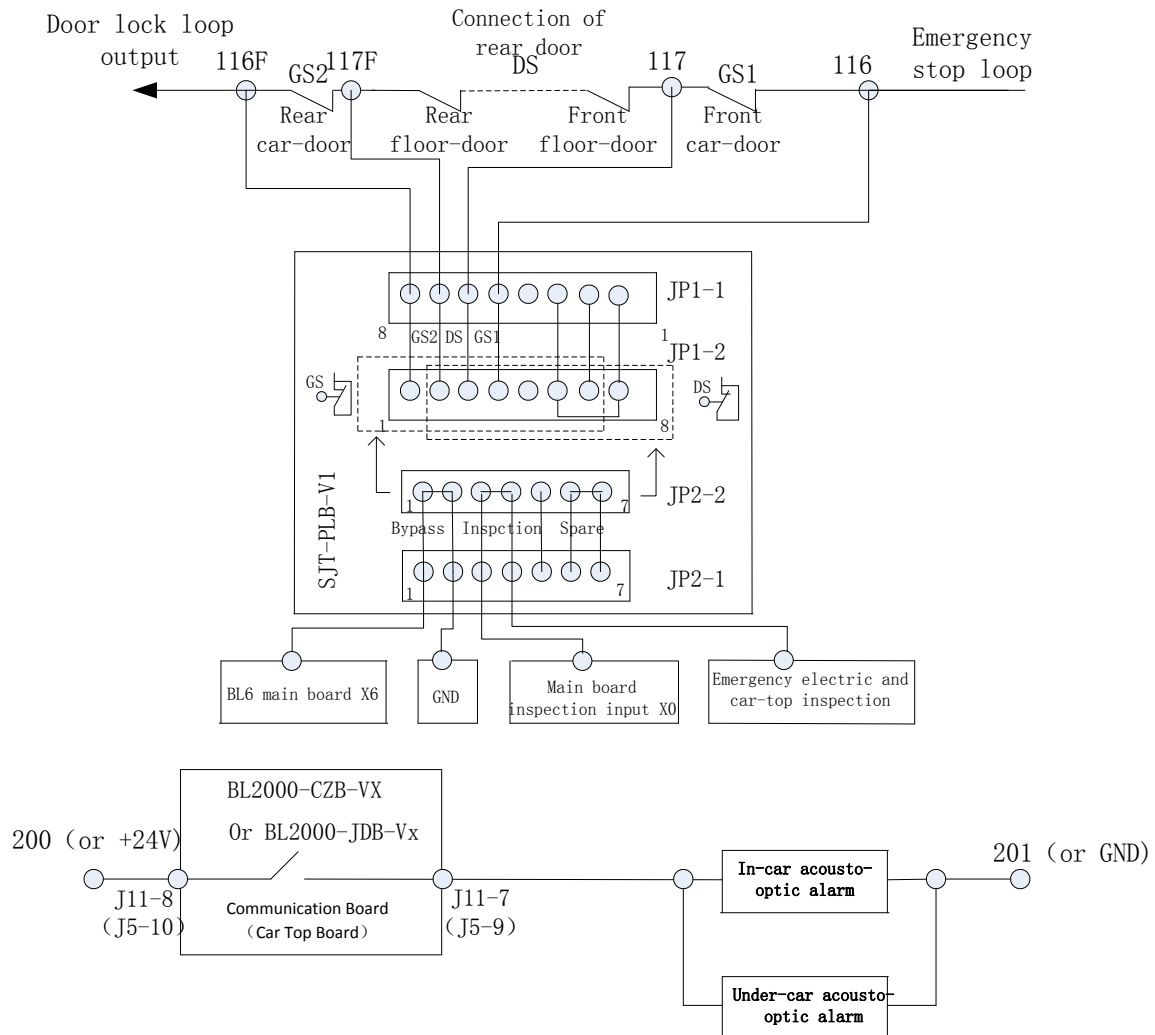
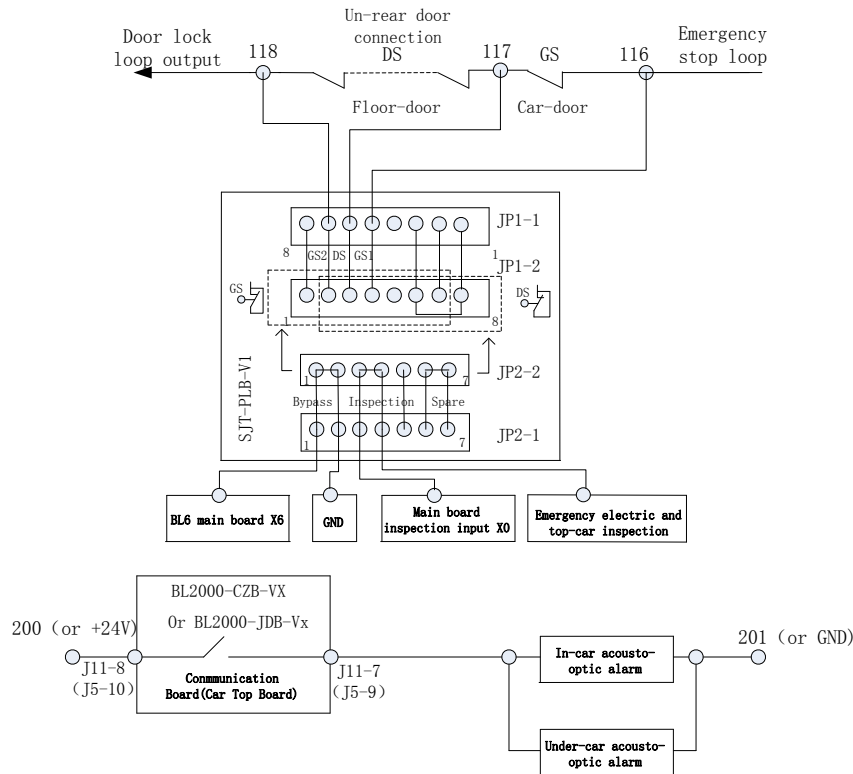

Figure F12.6 BL6-U series elevator integrated controller rear door bypass plan
Figure F12.7 BL6-U series elevator integrated controller un-rear door bypass plan
- 1、 Using a SJT-PLB-V1 dedicated bypass circuit board, such as figure F12.6 and figure F12.7, to use a 7 pin JP2-2 and an 8 pin JP1-2 plug-in with a 7 pin plug (out of factory) to achieve bypass operation.